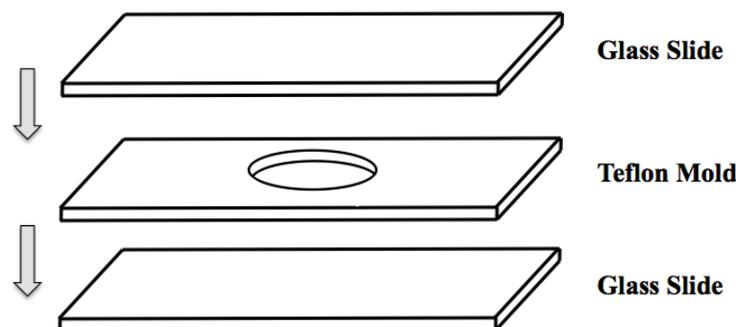

Figure 4. Teflon mold setup for MSA photopolymerization
4. With a glass slide as a base, small binder clips will be used to hold in place a circular Teflon mold. Using a spatula, fill the Teflon mold with the “paste” from Step 3. Once filled, gently remove the binder clips and place the last glass slide on top (as shown in Figure 4). Ensure no air bubbles are trapped in the mold and use the binder clips to hold the stack together.